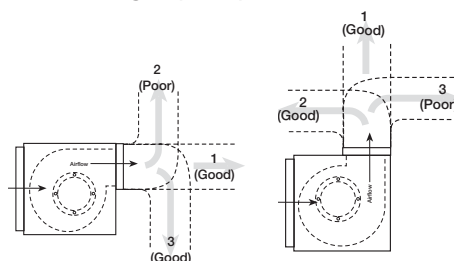

Figure 11 — Ductwork Installation
3. Installation of ductwork is critical to the performance of the fan, shown in Figure 11. Straight ductwork (1) or ductwork that turns in the same direction as the wheel (2) is recommended. Ductwork turning opposite the wheel direction (3) will cause turbulence and back pressure resulting in poor performance.